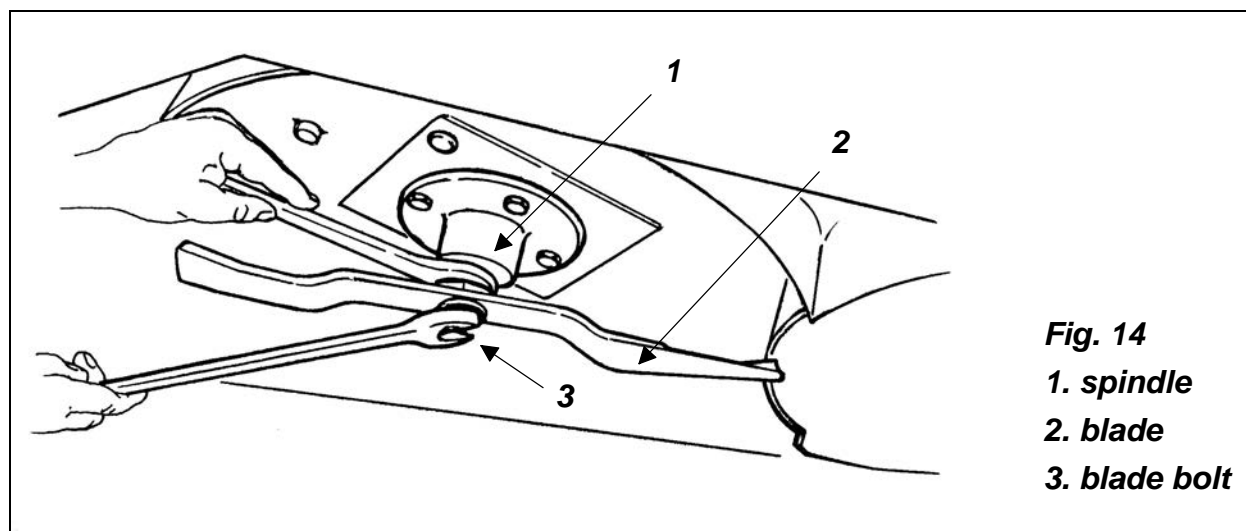

Fig. 14
3. With a wrench, block the spindle and tighten the bolt to 103 lb. ft. (**see fig. 14**).